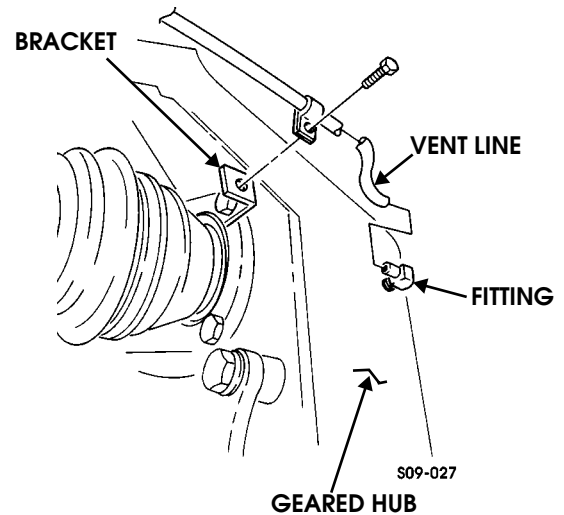

Figure 9-146: Rear Geared Hub Vent Line Location
2. Remove bolt, clamp, and vent line from bracket, and disconnect vent line from fitting (Figure 9-146).
3. Connect vent line to fitting and secure clamp and vent line to bracket with bolt (Figure 9-146).